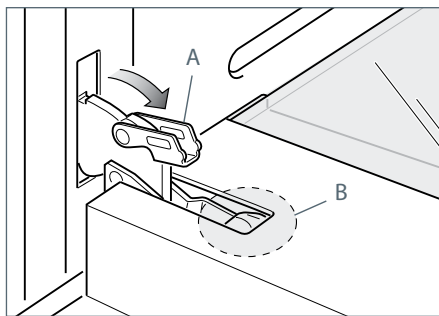

Fig. 63b
- 2 Open the lever "A" completely on the left and right hinges (Fig. 63b).